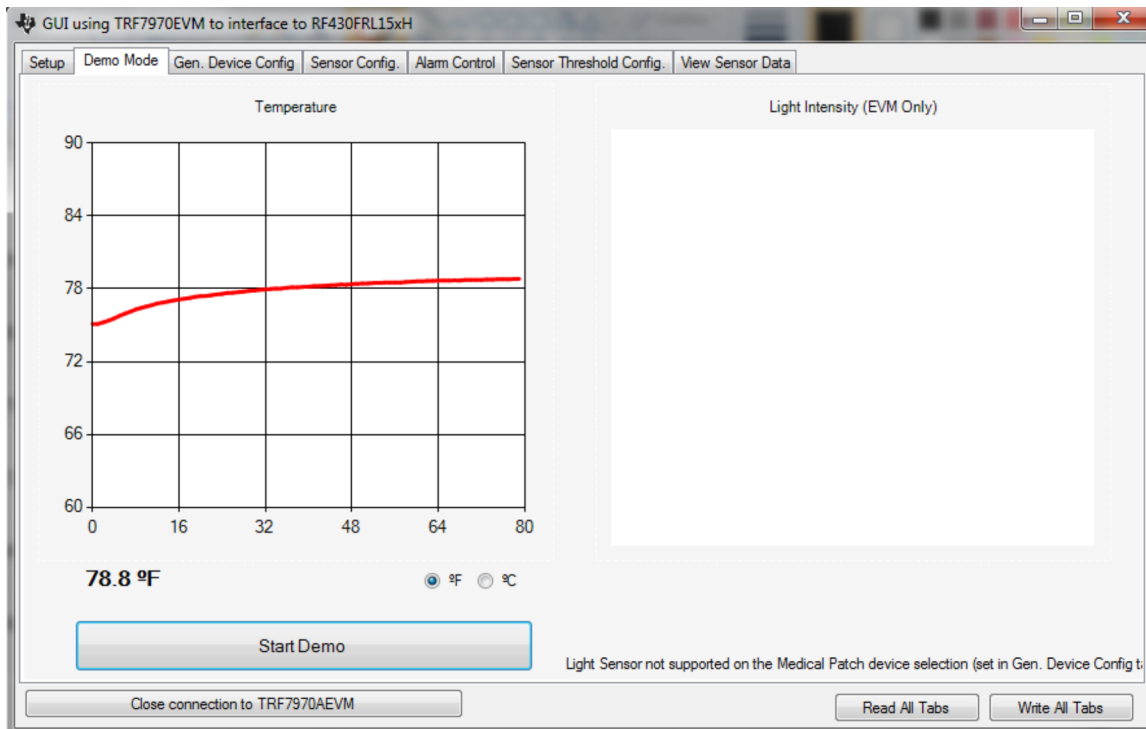

Figure 6. Temperature Measurements
- As long as the patch board stays within range of the TRF7970AEVM antenna, the measurements will continue to be taken and plotted on the graph (as shown in Figure 6). The latest measurement is shown as a numeric value, 78.8°F, in Figure 6. The GUI also provides the option to display in Fahrenheit or Celsius.